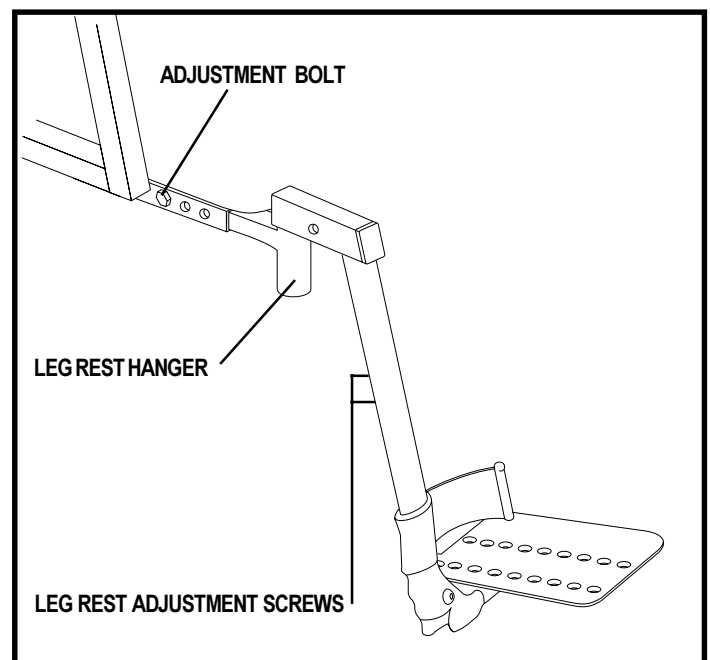

Figure 15. Heavy Duty Drop-In Leg Rests
1. Remove the adjustment bolt from the side rail. See figure 15.
1. Remove the adjustment screws from the leg rest extension. See figure 15.